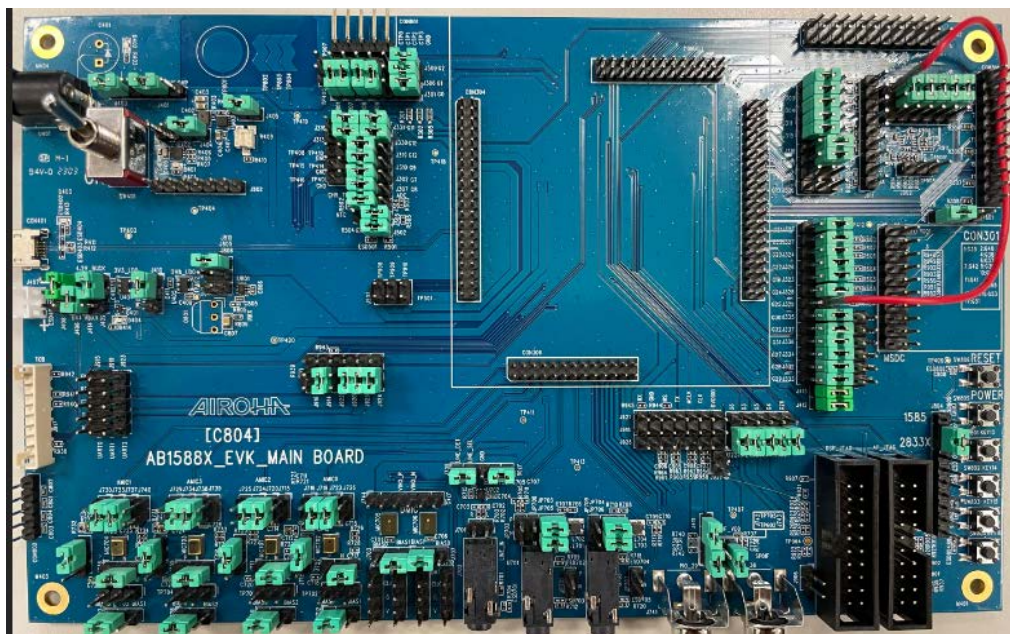

Figure 5-6 AB1582P Main board setting for USB download
- 1) Users must connect GPIO25 to 1.8V to download the firmware via USB. Refer to Figure.5-6